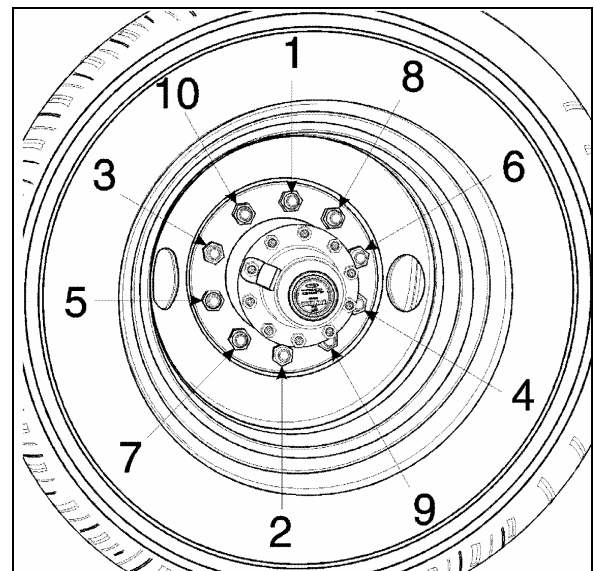
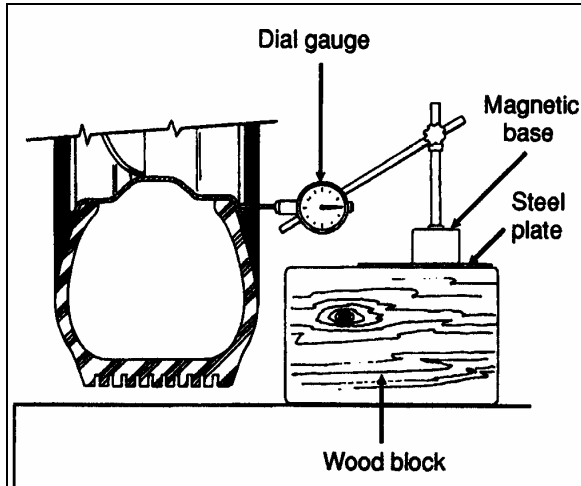

FIGURE 2: TIGHTENING SEQUENCE
FIGURE 3: DIAL GAUGE INSTALLATION 13008
It is also important that wheel stud nuts be tightened alternately on opposite sides of the wheel. Refer to Figure 2 for the suggested tightening sequence.
Tighten stud nuts progressively as shown in Figure 2. The final tightening should be done with a torque wrench. Tighten stud nuts to 450 - 500 lbf-ft (610 - 680 Nm) for aluminum wheels.
2. Screw in the hex stud nuts (refer to Figure 2 for sequence) so that wheel will position itself concentrically with hub. This is important, otherwise wheel may be eccentric with hub and will not run straight. In this initial step, slightly tighten the nuts to correctly position the wheel;
3. Tighten stud nuts progressively as shown in Figure 2. The final tightening should be done with a torque wrench. Tighten stud nuts to 450 - 500 lbf-ft (610 - 680 Nm) for aluminum wheel.
2. Screw in the inner cap nuts (Fig. 3), so that wheel will position itself concentrically with hub. Refer to Figure 2 for sequence;
3. Tighten inner cap nuts progressively according to sequence shown in Figure 2. Final tightening should be done with a torque wrench. Tighten inner cap nuts to 450 - 500 lbf-ft (610 - 680 Nm) for aluminum wheel.
Repeat for each of the 10 "hex stud nut - inner cap nut assemblies" according to the tightening sequence in Figure 2.
2. Check wheel lateral runout. Install a dial gauge as shown in Figure 3, then rotate the wheel by hand one full turn. As the wheel turns, note any variation on the dial gauge;
Using a calibrated torque wrench, tighten wheel nuts to 450 - 500 lbf-ft (610 - 680 Nm) of torque. Do not use power tools or long bars for tightening. Tighten wheel nuts alternately as shown in figure 2.